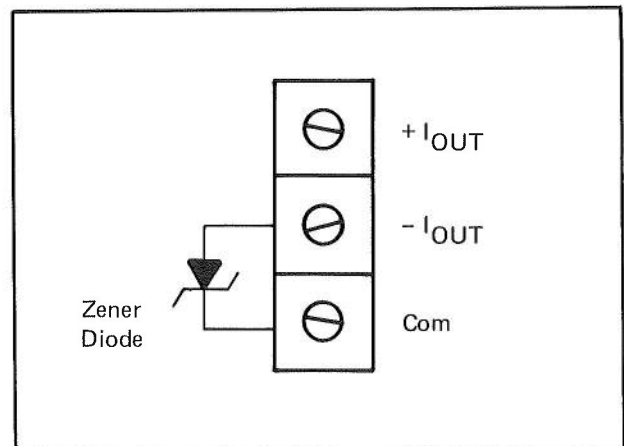

Figure 14 — Zener Diode Connection
9. When using the current output with very large inductive loads, a zener diode can be connected between -I out and common to prevent damage to the output transistor (Figure 14). This diode should have zener voltage of about 50 volts.